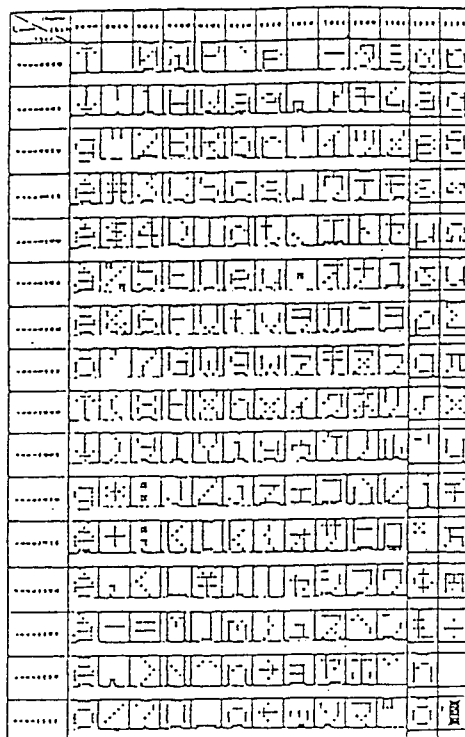

Fig. 4.1
- The complete character set (see Fig. 4.1) is shown as a moving display.